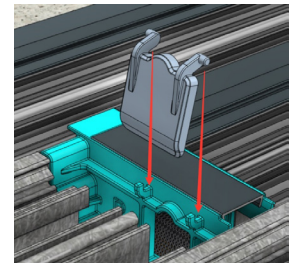

Fig 33a
- Hold the transverse drain door in place while removing the tape, or place the door back onto the transverse drain if it comes out of place (Fig. 33a)